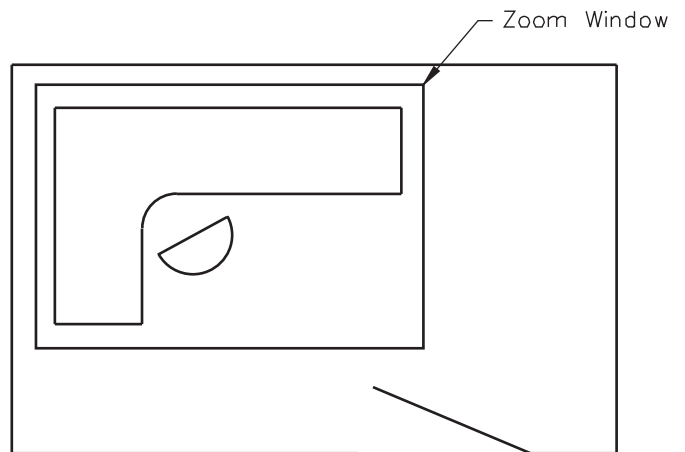

Fig. 13-2
2. In response to **Specify first corner**, place a window around the table and chair, as shown in Fig. 13-2. (Pick a point for the first corner and then select a point for the opposite corner.)